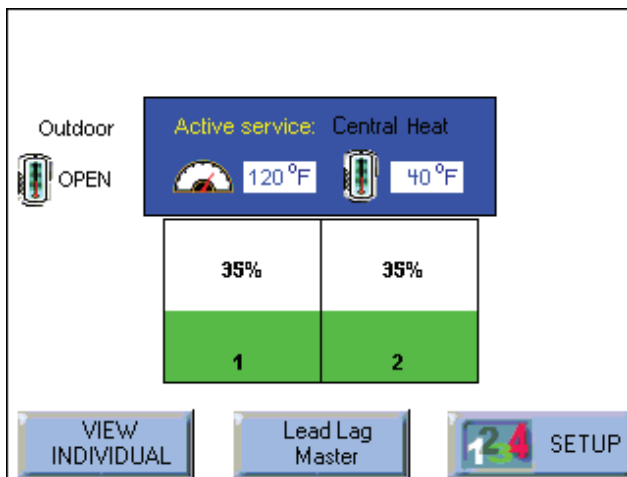

Fig. 58 – Lead/Lag Screen
- In a running system, the following screen would normally show the current activity of each unit in the Lead/Lag system. See Fig. 58.